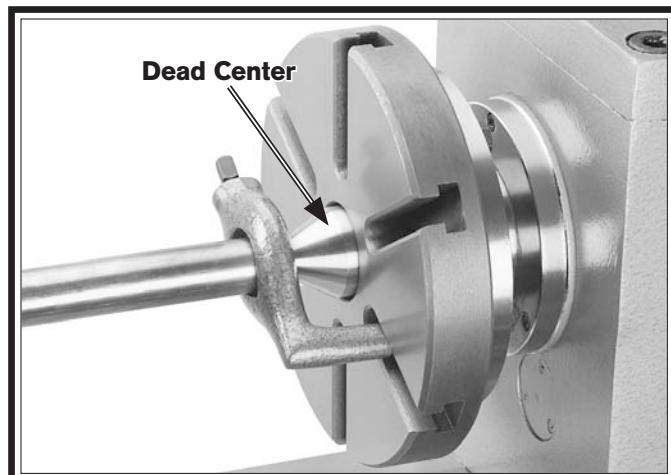

Figure 66. Example of using a dead center with a faceplate and lathe dog.
**Figure 66** shows an example of the dead center installed in the spindle, using a lathe dog and faceplate for turning between centers.